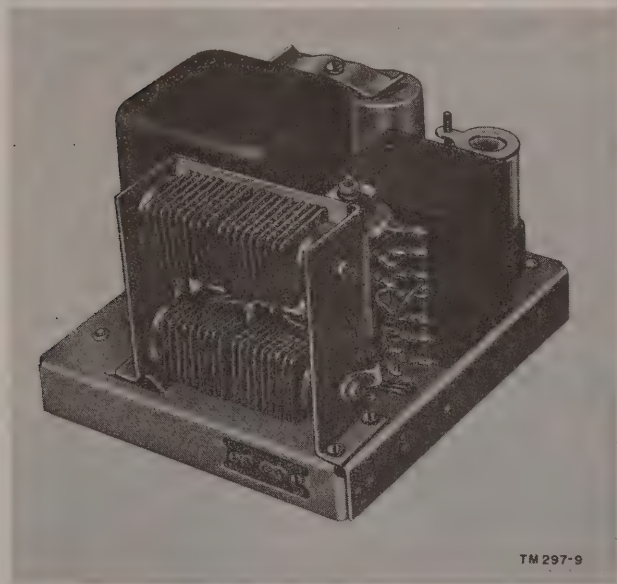

Figure 10. Power supply PP-867/U, PP-868/U, or PP-869/U (receiver).
(fig. 10)
b. Power Supply PP-869/U is used with Radio Set AN/VRC-19Y to adapt the receiver to a 6-volt direct-current (dc) power source. Power Supply PP-868/U permits the receiver to be used with Radio Set AN/VRC-19X, which operates from a 12-volt dc power source. Power Supply PP-867/U, 24 volts, is used with Radio Set AN/VRC-19. Figure 10 is representative of all three power supply models.